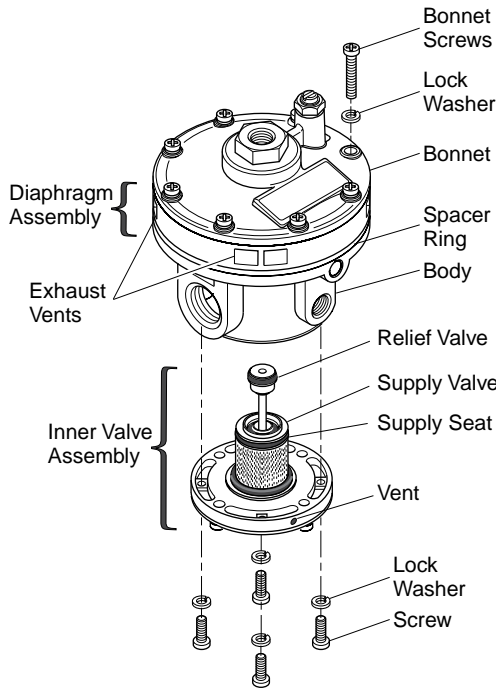

Figure 1.
The inlet and outlet ports are labeled "IN" and "OUT". Tighten connections securely. Avoid undersized fittings that will limit the flow through the booster. For more information, see Figure 1.
5. Replace the assembly carefully. Ensure that the Vent in the exterior part of the Inner Valve Assembly and the Exhaust Vents in the Spacer Ring are clear. For more information, see Figure 1.